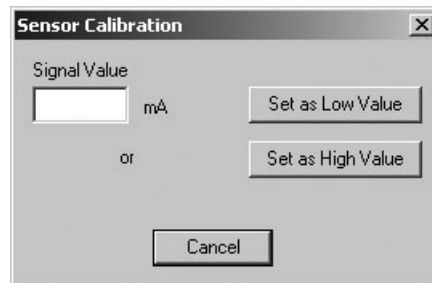

Figure 96 Signal Calibration Dialog
2. Click **OK** and Figure 96 appears with a field to enter the low or high signal value.
A dialog appears with a blank field for entering the low or high signal value, in mA (Figure 96).